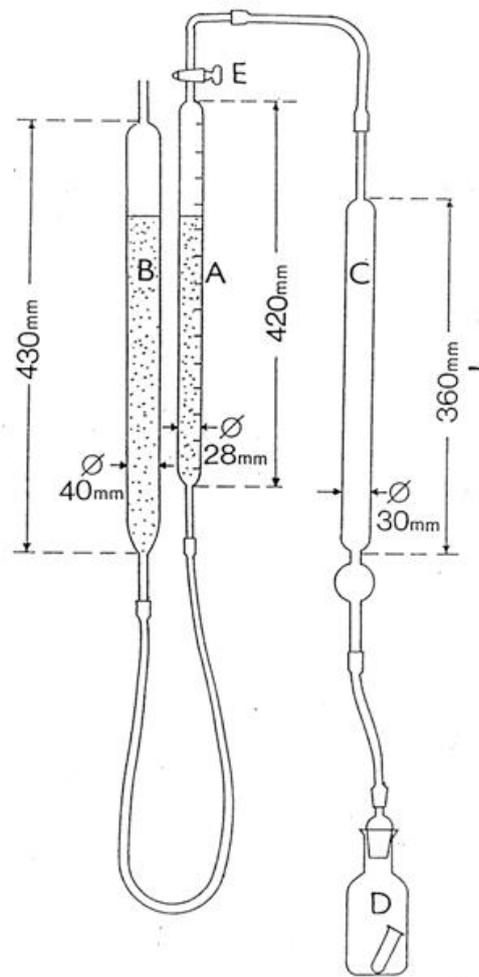

Fig. 1
Scheibler-Dietrich apparatus (fig. 1) or equivalent apparatus.
Place the portion of the sample in the special flask (D, in fig. 1) of the apparatus, fitted with a small tube of unbreakable material containing 10ml hydrochloric acid (3.1), and connect the flask to the apparatus. Turn the three-way tap (E) so that tube (A) connects with the outside. Adjust the height of the mobile tube (B) containing coloured sulphuric acid (3.3) to bring the level of the liquid in the graduated tube (A) to the zero mark. Turn the tap (E) in order to connect tube (A) with tube (C) and check that the level is at zero.